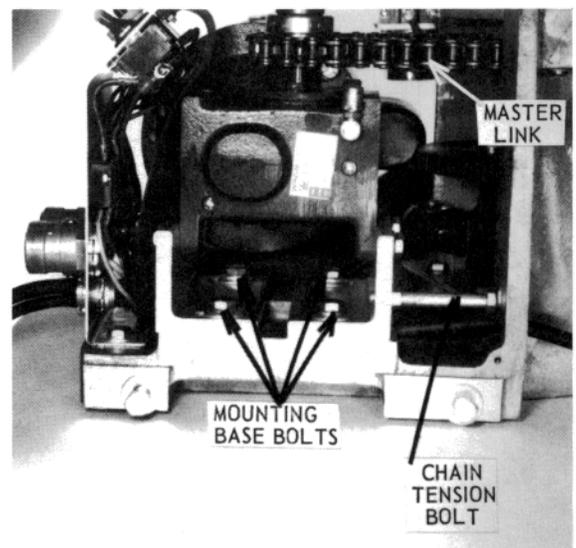

Figure 71 – Drive Chain
- 6.1.7 Slacken drive chain by loosening the four speed reducer mounting base bolts and chain tension bolt (see Figure 71). Disconnect chain by removing master link.